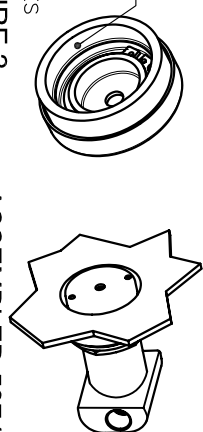

FIGURE 2 ASSEMBLED 5874PB
- 5.) APPLY ONE (1) DOT OF LOCTITE 222MS, ON THE FEMALE THREADS OF BUTTON ASSEMBLY, LEAVING THE FIRST AND LAST THREADS FREE. (FIGURE 2). CAUTION: EXCESS LOCTITE CAN CAUSE THREADS TO LOCK VERY TIGHTLY, MAKING REPAIRS DIFFICULT.